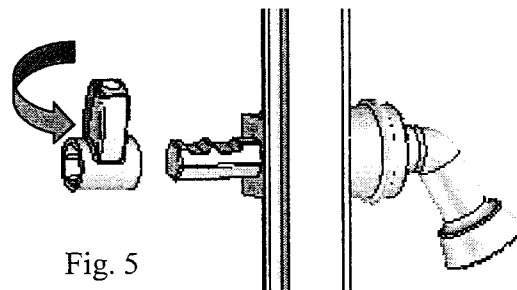

Fig. 5
8.) Check for free rotation of handle. If handle is tight, remove pawl and reverse it on the handle shaft. (Fig. 5)